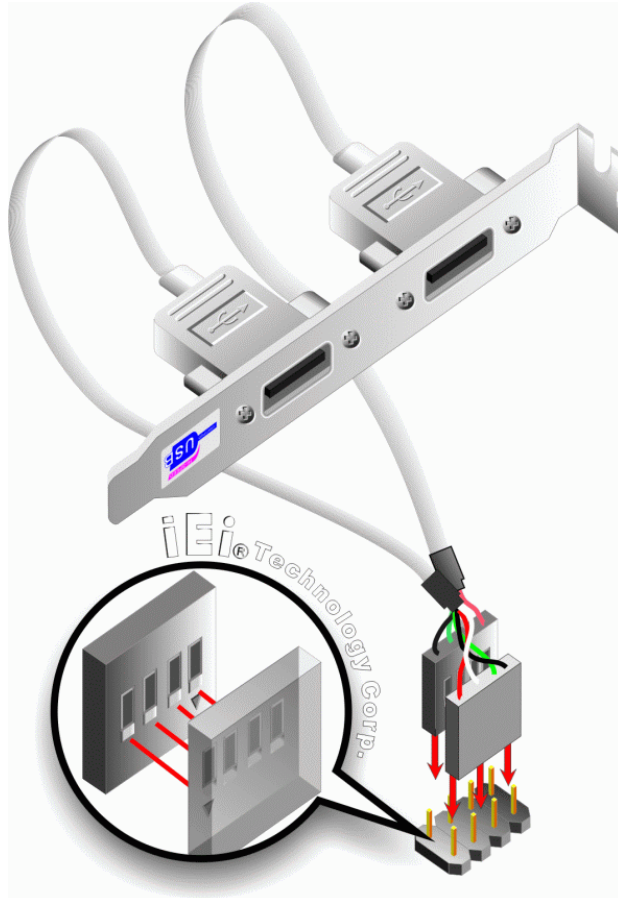

Figure 5-16: Dual USB Cable Connection
Step 3: **Insert the cable connectors** Once the cable connectors are properly aligned with the USB connectors on the IMBA-XQ354, connect the cable connectors to the on-board connectors. See **Figure 5-16**.
Step 3: Insert the cable connectors. Once the cable connectors are properly aligned with the USB connectors on the IMBA-XQ354, connect the cable connectors to the on-board connectors. See **Figure 5-16**.